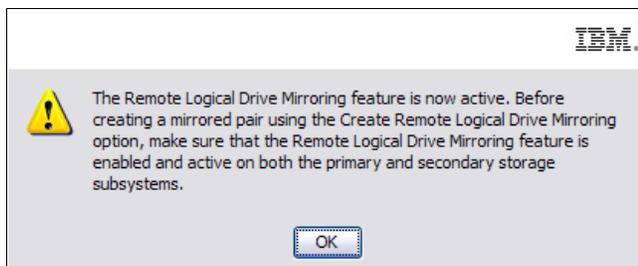

Figure 5-13 Activate Remote Mirroring wizard: Completed
5. The Activate Remote Mirroring wizard completed message (Figure 5-13) is displayed. Click **OK** to close the dialog box.